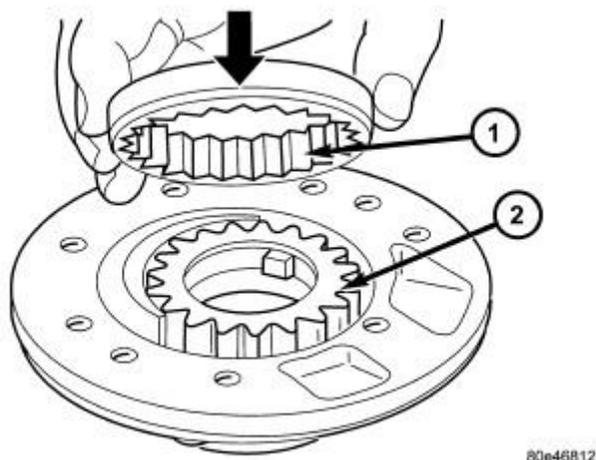

Fig. 175: Oil Pump Gears
1. Remove pump gears (1 and 2) from pump housing. Refer to **Fig. 175**.